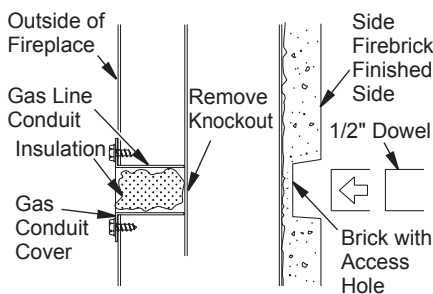

Figure 15 - Gas Line Access
1. Remove knockout indentation on refractory or firebrick wall located above refractory hearth floor. Knockout indentation must be firmly tapped with any solid object such as a 1/2" dowel until it is released. Remove fragmented portions of refractory (see Figure 15).